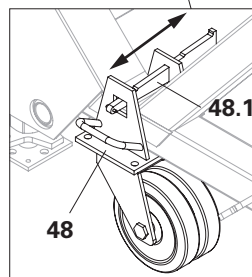

Fig. B4.04a
- Front castor (**48**) between the inclines of the brace frame. (Fig. B4.04a)